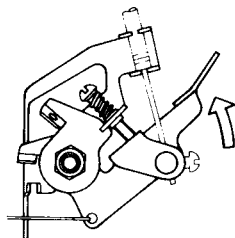

Fig. 6
2. After the engine is warmed up, engine speed can be controlled by the control lever. Move the control lever to the desired position and leave it, then the engine will keep running at constant speed. (See Fig. 6)